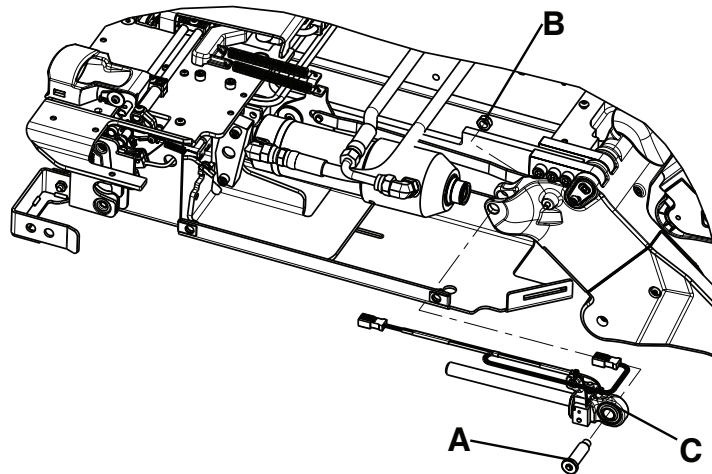
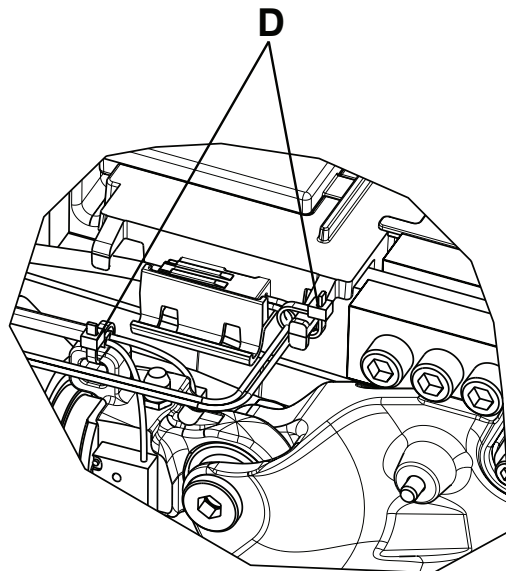

Figure 27 – Hydraulic cylinder assembly
Figure 28 – Cable ties locations
4. Using a 1/4" hex wrench and a 1/2" combination wrench, remove the end cap cylinder pin (A) and nut (B) (Figure 27).
5. Using diagonal pliers, cut the cable ties (D) (Figure 28) that secure the hydraulic cylinder rod end assembly (C) cable to the plastic cover (Figure 27).
6. While lifting up on the cylinder, remove the hydraulic cylinder rod end assembly (C) (Figure 27). Save the hydraulic cylinder rod end assembly for reinstallation.